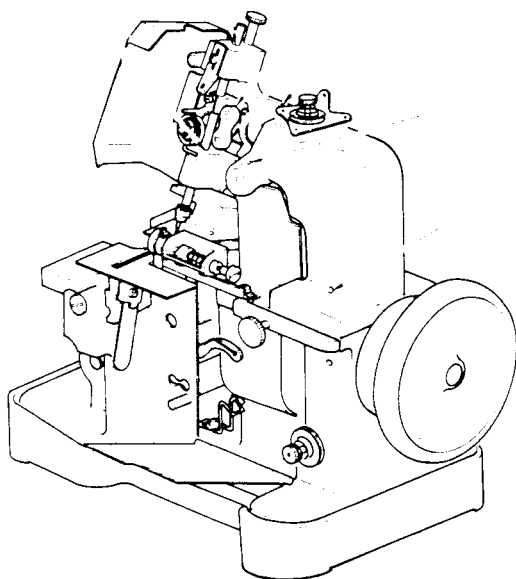

Fig. 2
3. LUBRICATION (See Figs. 2--4)
When a machine is new or has been idle for several weeks, it is advisable to apply oil to all oiling points indicated in Figs. 2, 3 and 4 and to all other parts which are in movable contact. Run machine at a moderate speed for 10 to 15 minutes until all parts are fully lubricated.